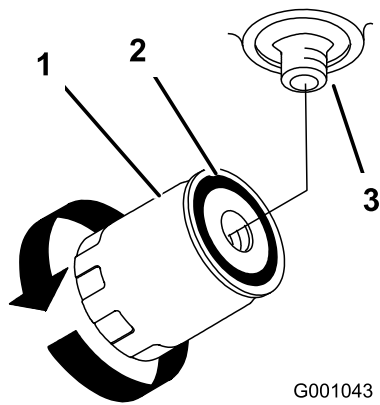

Figure 84
- Remove the old filter and wipe the filter-adapter gasket surface clean (Figure 84).
- Turn the oil filter clockwise until the rubber gasket contacts the filter adapter, then tighten the filter an additional 1/2 turn (Figure 84).